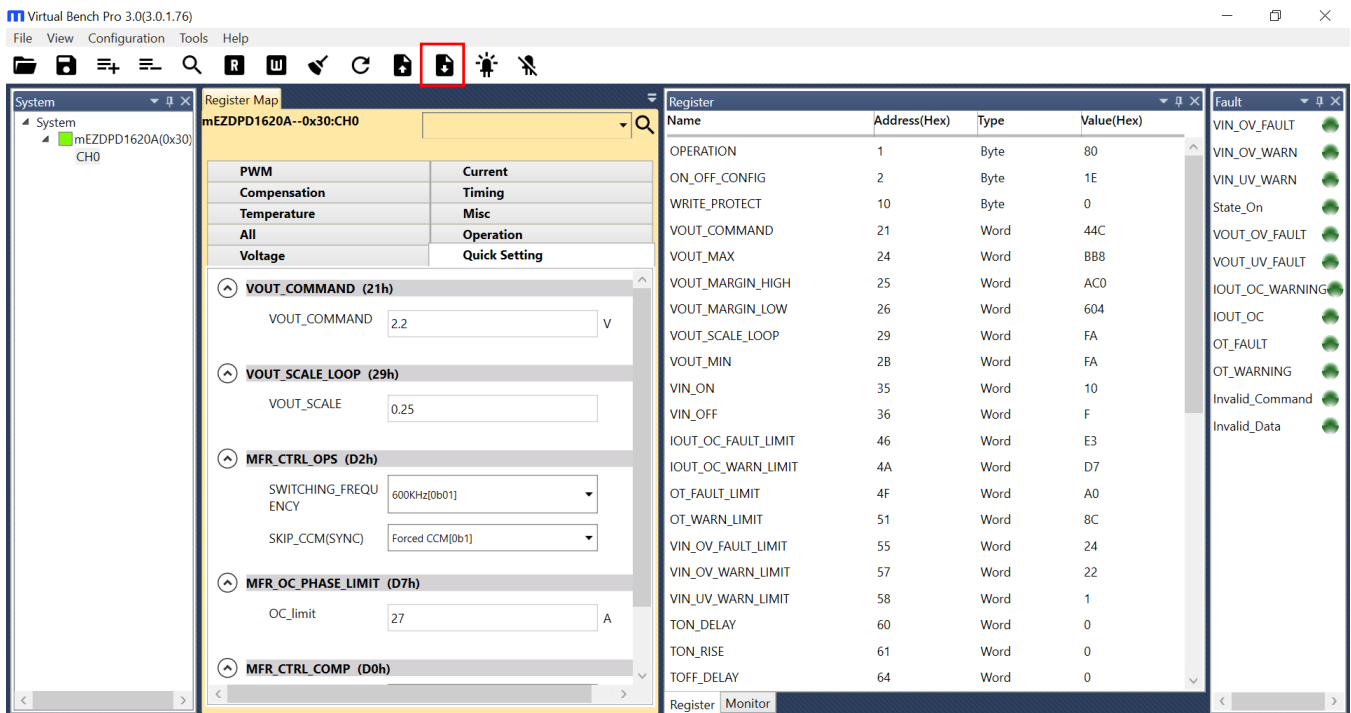

Figure 10: Write to the MTP Memory
4. Click the “Write to MTP” button and wait until the writing action is completed (see Figure 10).